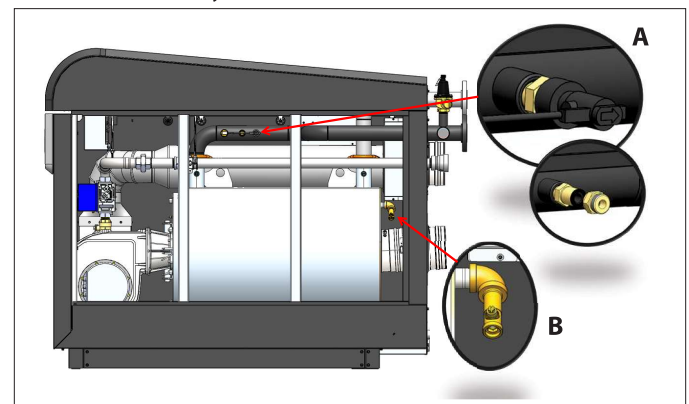

Figure 68 - Drain Kit Details
4. Remove the flow switch from the appliance. See Figure 68.
5. Install the gasket and brass adapter for the hose connection (included with part # 7550P-606) onto the flow switch fitting. See Figure 68-A.
6. Connect one hose to the drain valve (Figure 68-B) and place the free end in a bucket. Connect one of the hoses to the circulation pump outlet and the hose connection adapter installed on the flow switch fitting. Connect the other hose to the circulation pump inlet and place the free end in the bucket.